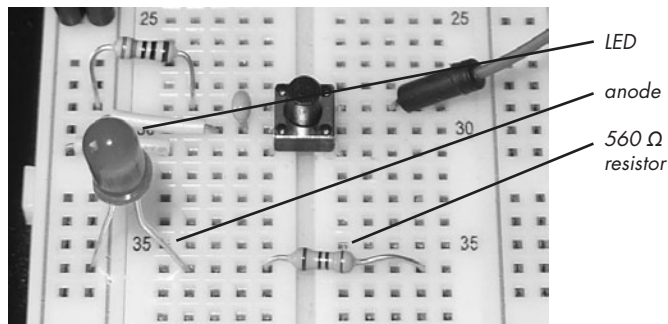

Figure 4-24: Inserting the LED and 560  $\Omega$  resistor
- Insert the LED into the breadboard with the short leg (the cathode) connected to the GND column, and the long leg (the anode) in a row to the right. Next, connect the 560  $\Omega$  resistor to the right of the LED, as shown in Figure 4-24.